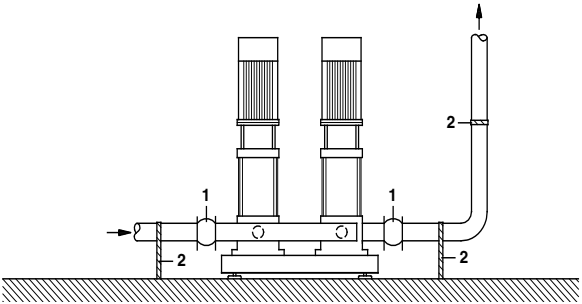

Fig. 5 Installation example with expansion joints and pipe supports
1. The pipes connected to the pump system must be of adequate size. Fit expansion joints in the inlet and outlet pipes to avoid resonance. See fig. 5.
If pump systems are installed in blocks of flats or the first consumer on the line is close to the pump system, we recommend that you fit expansion joints on the inlet and outlet pipes to prevent vibration being transmitted through the pipes. See fig. 5.
The expansion joints and pipe supports shown in fig. 5 are not included in the standard pump system.